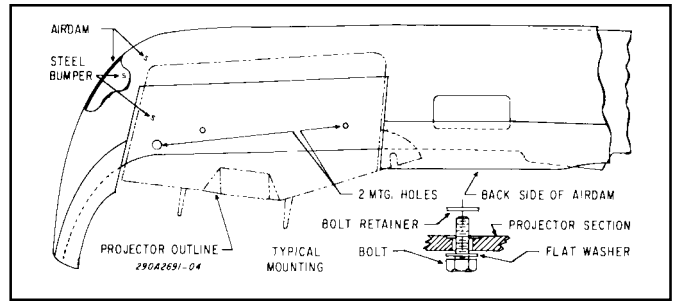

Figure 5. Speaker Mounting.
5. Install the 1/4-20 and 5/16-18 mounting bolts in the speaker projector using flat washers and bolt retainers as shown in figure 5.
6. See figure 5. Position the speaker in the opening cut in the air dam and secure using flat washers, split lockwashers and nuts.